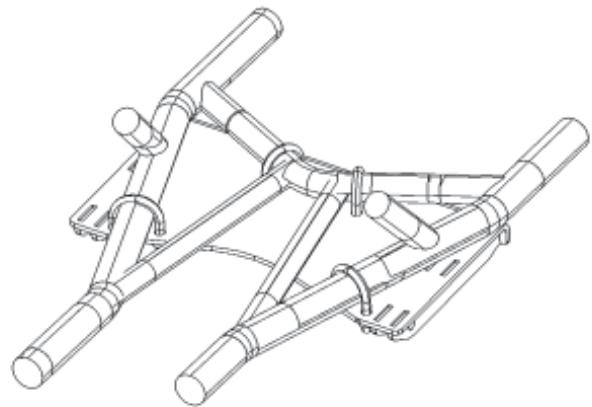

Figure 5 Completed Plow Mount
5. Tighten all the 5/16" dia nylock nuts (C4) on the plow mount (A1) to a recommended torque of 12 ft-lb (16 N-m). The completed plow mount should look like figure 5.